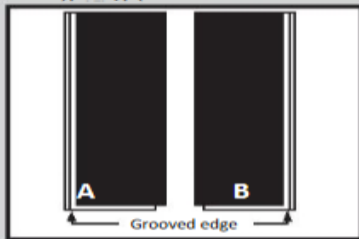

Fig 3.
- Open several cartons of the material. The planks will be marked "A" and "B" on the back (diagram below). Separate the different planks in stacks keeping the edges the same direction. While stacking mix up the planks to get good color separation for installation (Fig 3.).